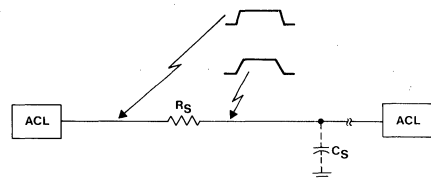

Fig. 25. Use of series termination resistor to increase output edge rates.
Fortunately, unlike bipolar FAST logic, the design engineer may insert series resistors (RS) in the output circuit, as shown in Fig. 25, to reduce the spectral content, dampen ringing, and act as a series terminator. Propagation delay, however, will increase as a result of the series resistor and the associated total shunt capacitance CS. For CMOS loads, an RS, even up to several kilohms in value, will not affect input switching because the input resistance (RI) is greater than 1000 megohms. For bipolar FAST devices, however, adding a series resistor results in increased values of VIL because IIL is 1.6 milliamperes. Hence, 100 ohms is probably the maximum value for RS with FAST ICs. This topic is covered in more detail in the Design Considerations section of this Manual.